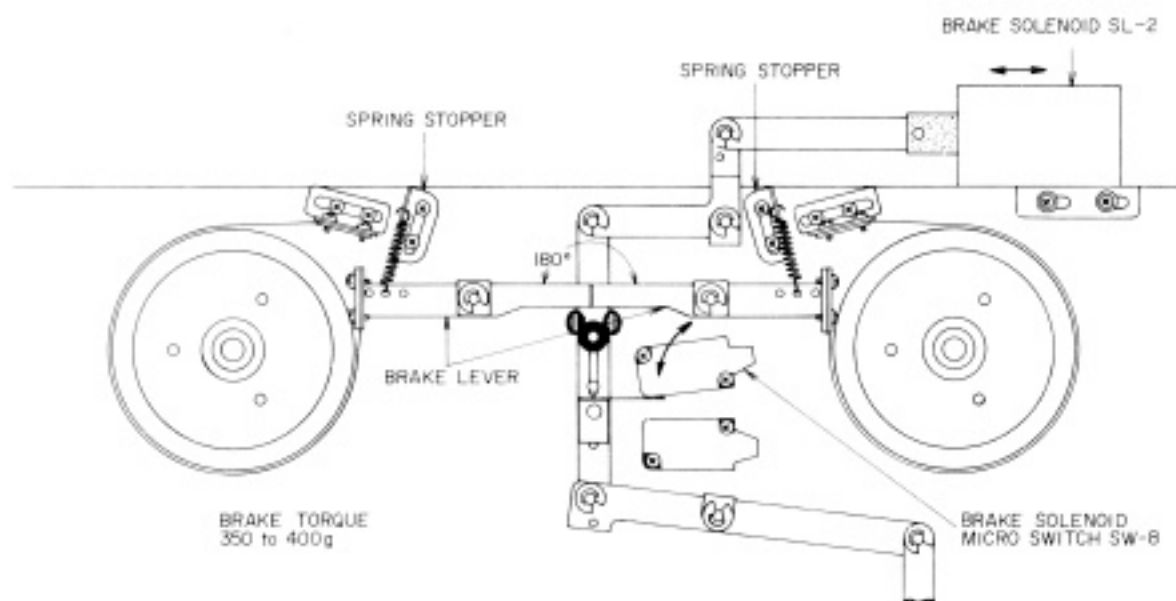

Fig. 4
8. POSITION ADJUSTMENT OF BRAKE SOLENOID SL-2 (Refer to Fig. 4)
9. POSITION ADJUSTMENT OF BRAKE SOLENOID MICROSWITCH SW-8 (Refer to Fig. 4)
10. BRAKE TENSION ADJUSTMENT (Refer to Fig. 4)